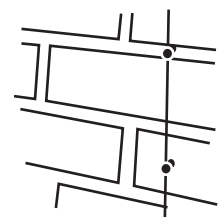

Figure 4.
- Use 2 anchors per clip. (Figure 4) (Section 4.1)